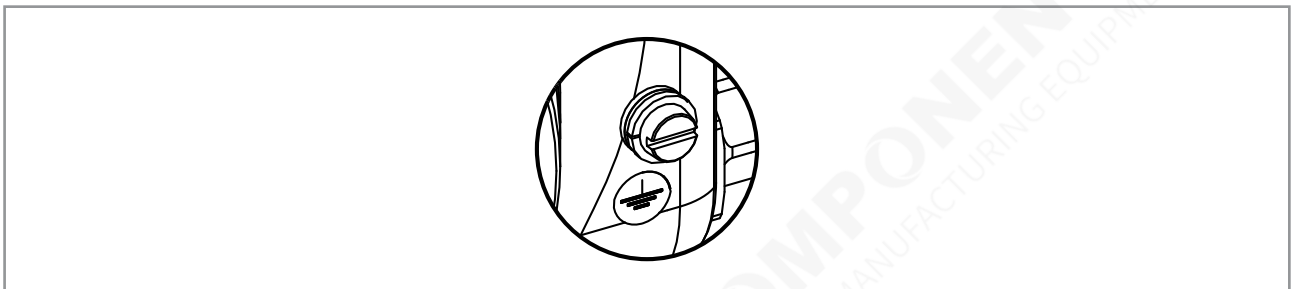

Fig. 30: Functional earth screw on the outer surface of the device
- or to the functional earth screw on the outer surface of the transmitter housing (see Fig. 30).